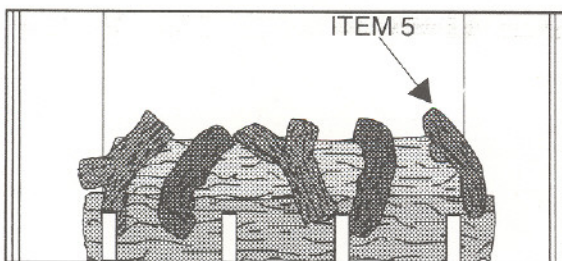

Figure 30
8. See Figure 30. The last log to place is the small "hooked" Log (Item 5). Place the longer end on the right hand indentation of the Back Log. The short portion of the small "hooked" log is positioned on the right hand indentation of the Front Log.